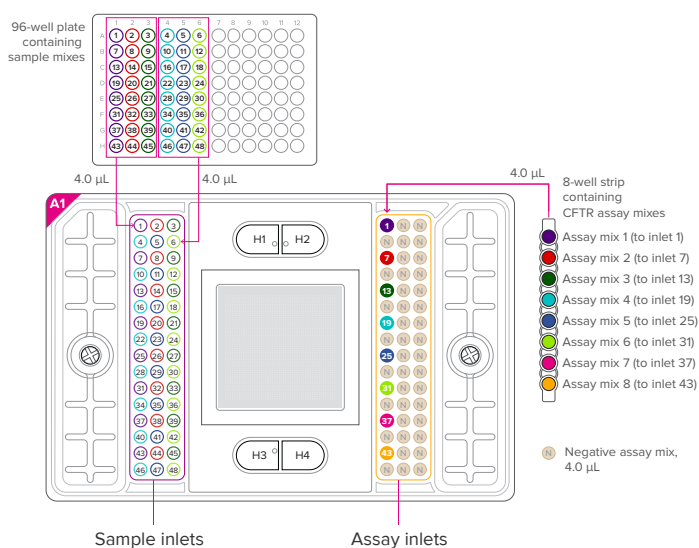

Figure 5. Loading map
- To maintain traceability, note the orientation of the A1 corner, assay inlets, and sample inlets, as shown in Figure 5, before you start pipetting.
- Pipet the CFTR assay mixes and sample mixes into the LP 48.48 IFC as shown in Figure 5.
- Carefully pipet 4.0 µL of each CFTR assay mix from the 8-well strip into the designated assay inlets on the IFC, as shown in Figure 5. When pipetting, dispense the CFTR assay mix while making contact with the side of the inlet near the bottom of the well.
- Carefully pipet 4.0 µL of non-assay mix into the remaining assay inlets (N), as shown in Figure 5. When pipetting, dispense the non-assay mix while making contact with the side of the inlet near the bottom of the well.
- Carefully pipet 4.0 µL of each sample mix into the designated sample inlet of the IFC based on the predefined sample map, as shown in Figure 5. When pipetting, dispense the sample mixes while making contact with the side of the inlet near the bottom of the well.